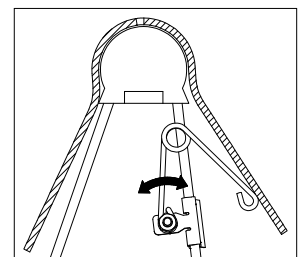

FIGURE E2: Cutaway view of driver side pivot arm and saddle.
- Adjust the resting angle of your coupler plate by rotating the spring on the driver side pivot arm. Pulling the top of the spring away from the cab will increase the angle of the coupler plate. Set the angle of the coupler so that head will tilt away from the cab when coupling, see figure E2. Tighten the 1/4" nut once the springs orientation is set.